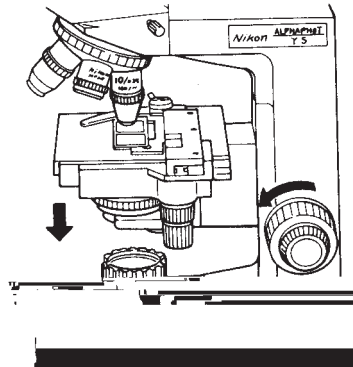

Fig. 4.3
- Focus the specimen under 10x objective using the coarse focusing knob and lowering the stage (Fig. 4.3).